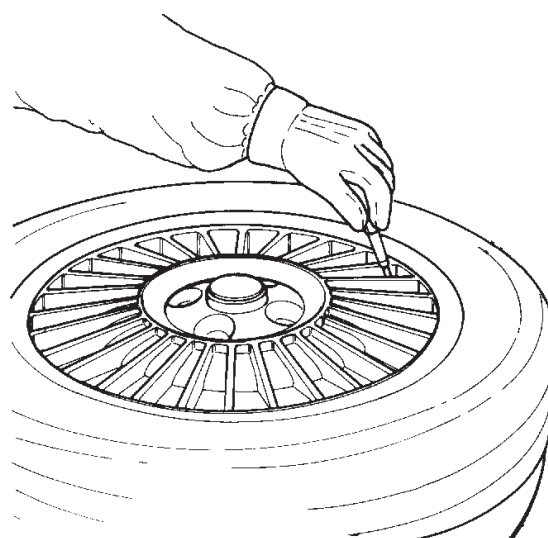

Fig. 4-1
A. Remove all wheel-weights from the rim. Remove the valve stem or valve stem core and deflate the tire (Fig. 4-1).